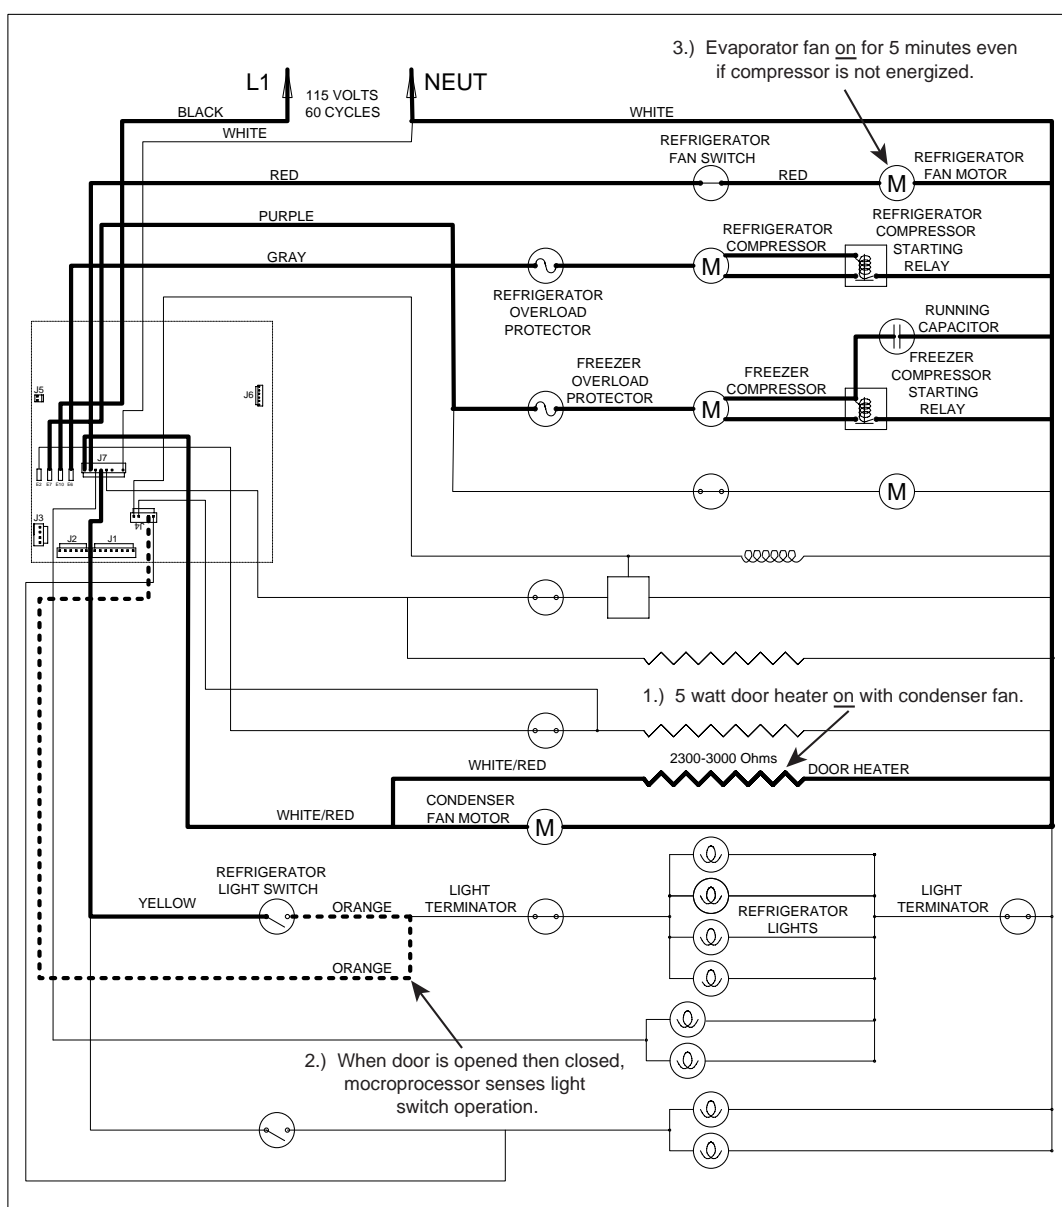

Figure 3-14. Signal Trace Schematic of 611G-2/650G-2 Door Heater & Evaporator Fan Operation
- The heater in 611G-2 and 650G-2 doors is tied into the condenser fan circuit (see Control Condenser Fan Operation on preceding page and Figure 3-14 below).
To help minimize condensation on the glass further, the microprocessor detects when the refrigerator door is opened, via the light switch, then when the door closes, the evaporator fan is energized for 5 minutes. This draws any warmer moist air away from the door glass. (See Figure 3-14)